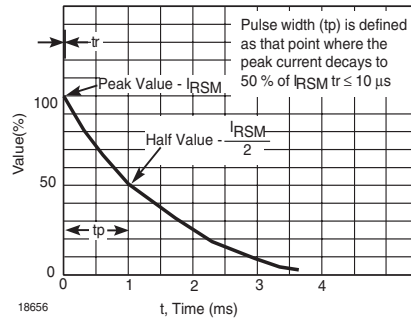
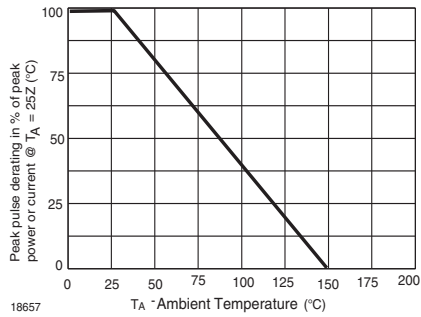

Figure 2. Pulse Waveform
Figure 3. Pulse Derating Curve
2) Surge current waveform per Figure 2 and derate per Figure 3